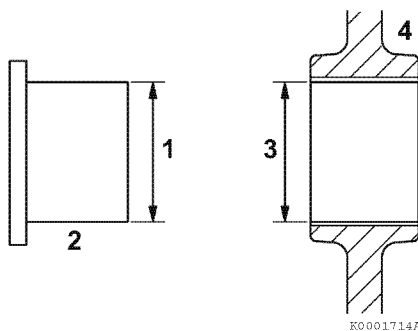

Figure 6-82
1. Measure the outside diameter (1, **Figure 6-82**) of the idler gear shaft (2, **Figure 6-82**). Record the measurements. *See Idler Gear Shaft and Bushing on page 6-7 for specifications.*
2. Measure the inside diameter (3, **Figure 6-82**) of the idler gear bushing (4, **Figure 6-82**). Record the measurements. *See Idler Gear Shaft and Bushing on page 6-7 for specifications.*